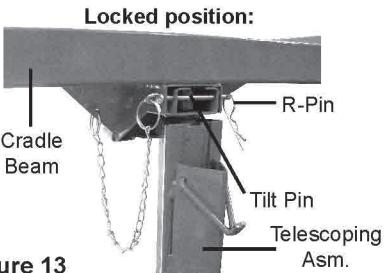

Figure 13
WARNING! To prevent serious injury from falling load: Only remove the Tilt Pin shown in Figure 13. Do not remove the Hinge Pin on the opposite side of the Cradle.
4. Pull the Tilt Pin out and tilt the Cradle. (See Figure 13.)